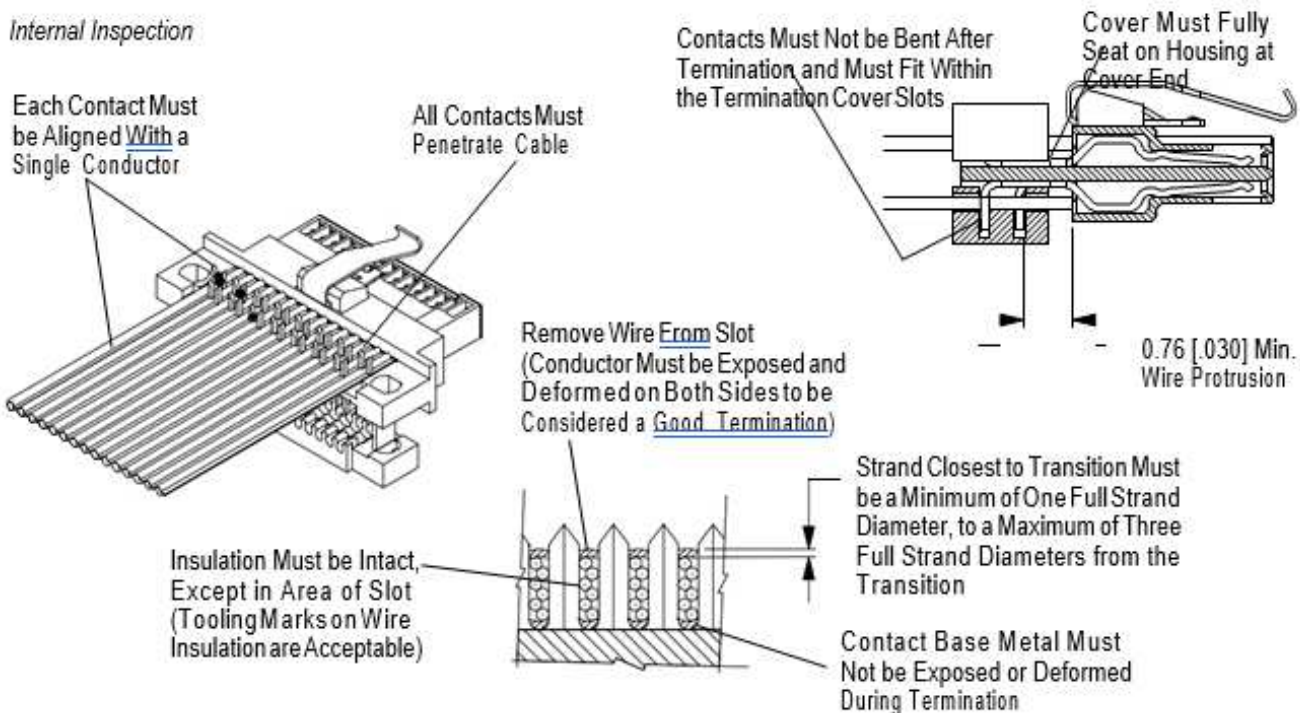

Figure 19
B. Internal Inspection (Figure 19)